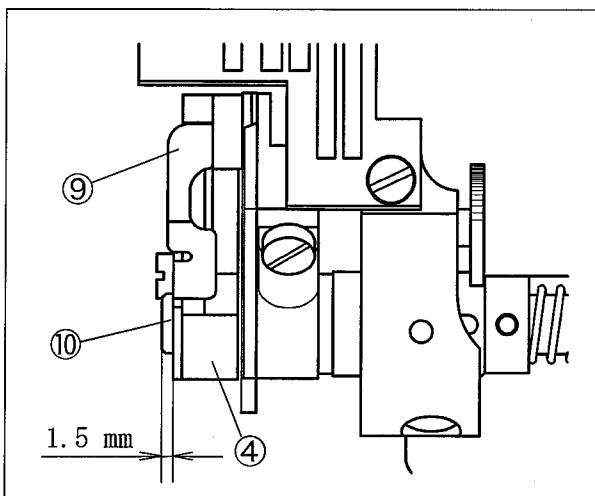

Fig. 81
- (1) Attach the upper knife③ to the pin⑧ in the upper knife holder④ and tighten the screw⑦ securely.
- (2) Set the left end of the chip receiver⑨ fixed on the left of the upper knife holder④ 1.5 mm apart from the left end of the upper knife shaft⑩. (Fig. 81)
- (3) Rotate the handwheel manually to lower the upper knife③ at the lowest point. Move the upper knife holder④ to place the upper knife tip 0.5 mm above the top of the lower knife. Then, tighten the screw⑥ securely.
- (4) Loosen the screw② on the collar(left)①. The upper knife③ touches the lower knife⑤ with its spring.
- (5) Rotate the handwheel manually to check the sharpness of the blades by setting a thread between the upper knife③ and the lower knife⑤.
- (6) Set the top of the lower knife⑤ 7.0 mm apart from the upper knife③ tip (at the base of the blade). Then, tighten the screw② securely.
- (7) Recheck the knives cut properly.